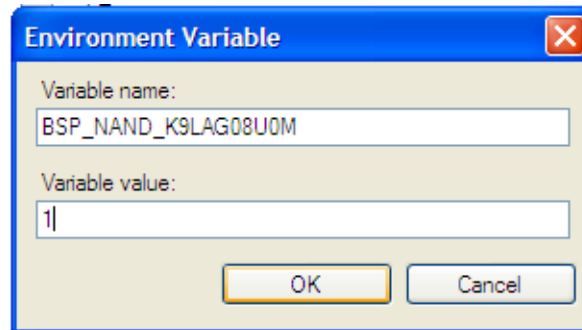

Figure 3. Entering Variable Name and Variable Value
- b) In the Variable name field, enter the variable defined in the source file which was modified in step 4 of Section 2.2, “Inclusion of New NAND Flash Model.” In the example as shown in Figure 3, the Variable name field is BSP_NAND_K9LAG08U0M. The Variable value field must be equal to one.